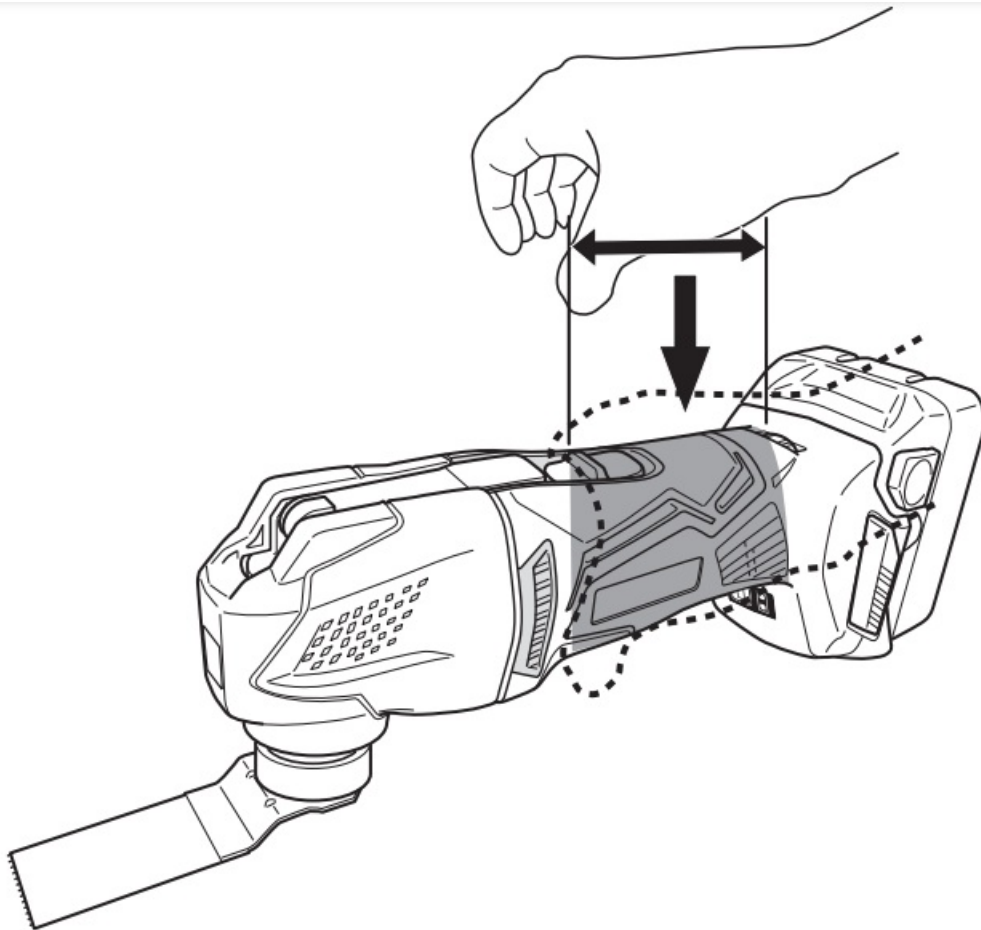

Fig. 1
1. Always hold the tool firmly with one hand on the housing (Fig. 1). Do not touch the metal part.